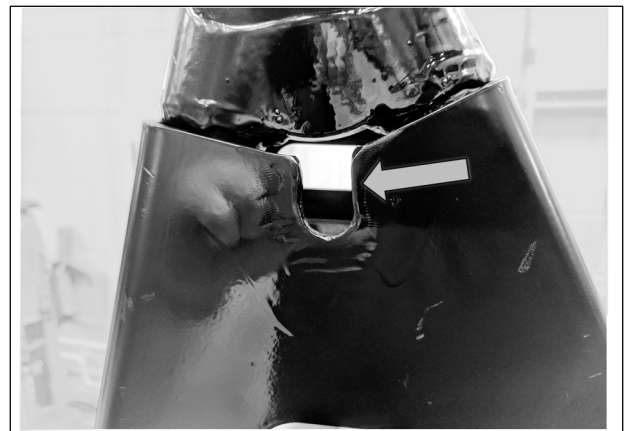

Fig. 9
4. Remove portion (1), illustrated below, of each front suspension arm. This operation will allow insertion of one of the anchor bracket bolts needed to assemble the anchor bracket correctly. See Fig. 9